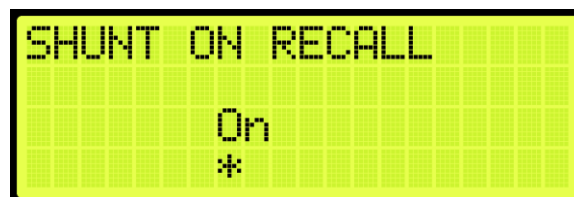

Figure 611: SHUNT ON RECALL Menu
5. From the SHUNT ON RECALL menu, scroll and select On (See Figure 611).